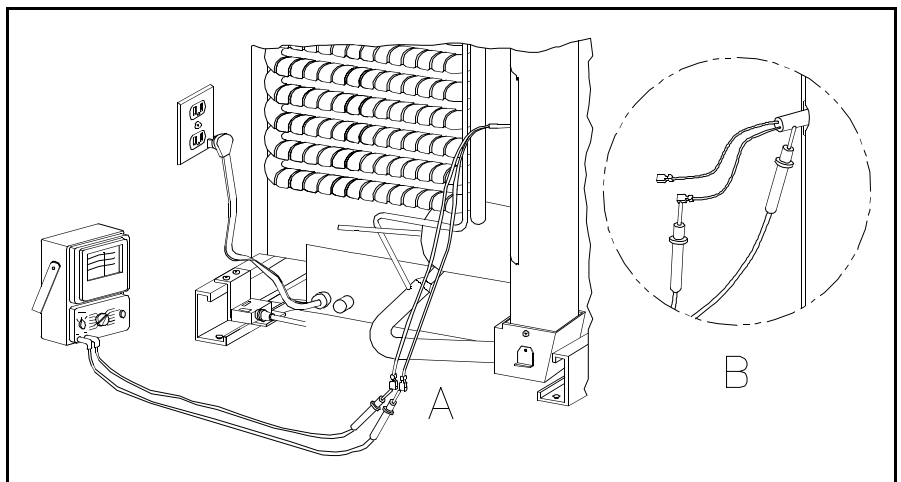

Figure 3.40 Heater Resistance Check
14. The last check to make is for continuity on AC heater element leads as shown in Figure 3.40.
15. With the Volt-Ohm meter set to the Rx1 scale, check the resistance of the heater (Figure 3.40 A). The resistance should be as shown: